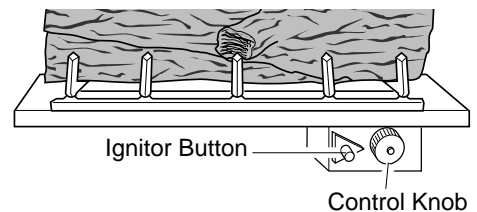

Figure 28 - Control Knob and Ignitor Button Location
3. Turn control knob clockwise to the OFF position (see Figure 28).
4. Wait five (5) minutes to clear out any gas. Then smell for gas, including near the floor. If you smell gas, **STOP!** Follow "B" in the safety information, column 1. If you don't smell gas, go to the next step.
5. Turn control knob counterclockwise to the PILOT position. Press in control knob for five (5) seconds (see Figure 28).
**Note:** If pilot goes out, repeat steps 3 through 7. This fireplace has a safety interlock system. Wait one (1) minute for system to reset before lighting pilot again.